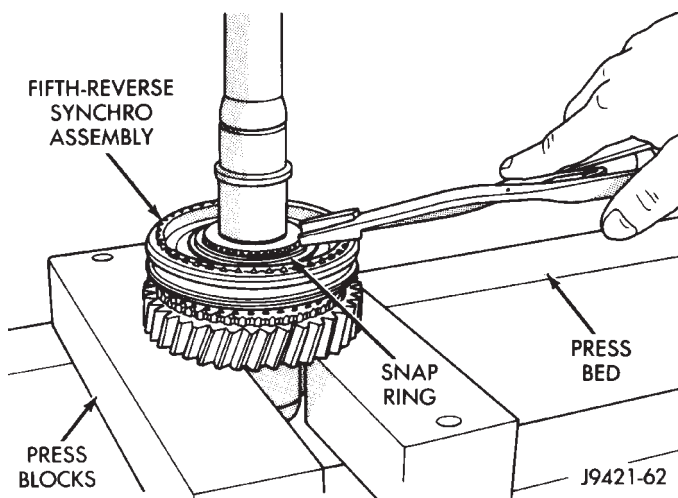

Fig. 57 Installing Fifth-Reverse Synchro Hub Snap Ring
(9) Install new fifth-reverse hub snap ring (Fig. 57) as follows: